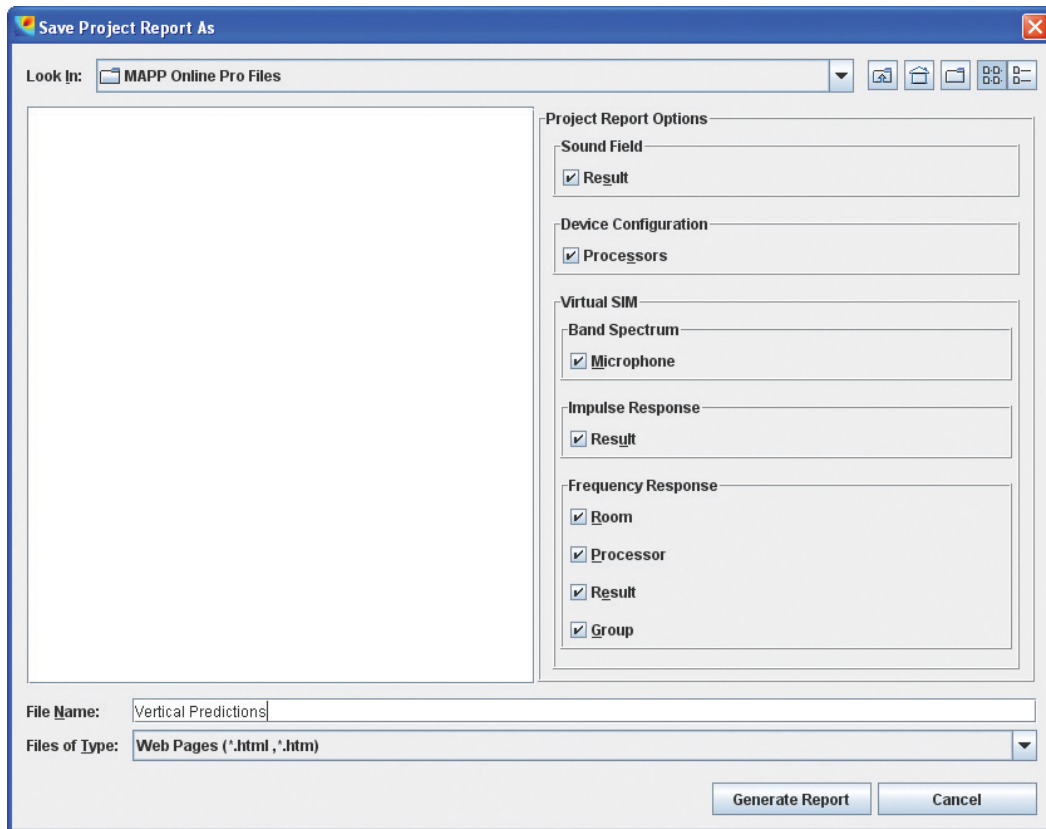

Figure 32. The Save Project Report As dialog box, to generate a report
1. From the Tools menu, select **Project Report**. The Save Project Report As dialog appears (Figure 32).